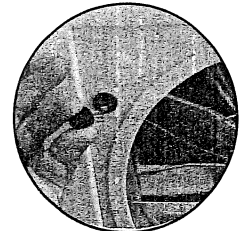

Fig. 1
1. Locate the black cap on the face of the screen assembly. Twist the cap in a counter-wise direction (from right to left) one quarter to one half turn and gently pull down on the cap. The cap should come free with the fuse attached to the backside (see Fig. 1).
1. Open dome all the way. Remove the fuse by pushing up and turning the black fuse cap 1/4 turn counter-clockwise and pull down (Fig. 1).